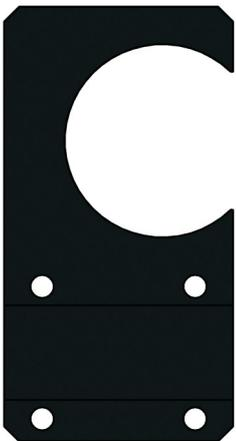

Figure 49 - Holding arm
- Assemble the holding arm for the protective housing concentric to the second bore hole at the top of the post (fig. 49) (screws: M10x90).